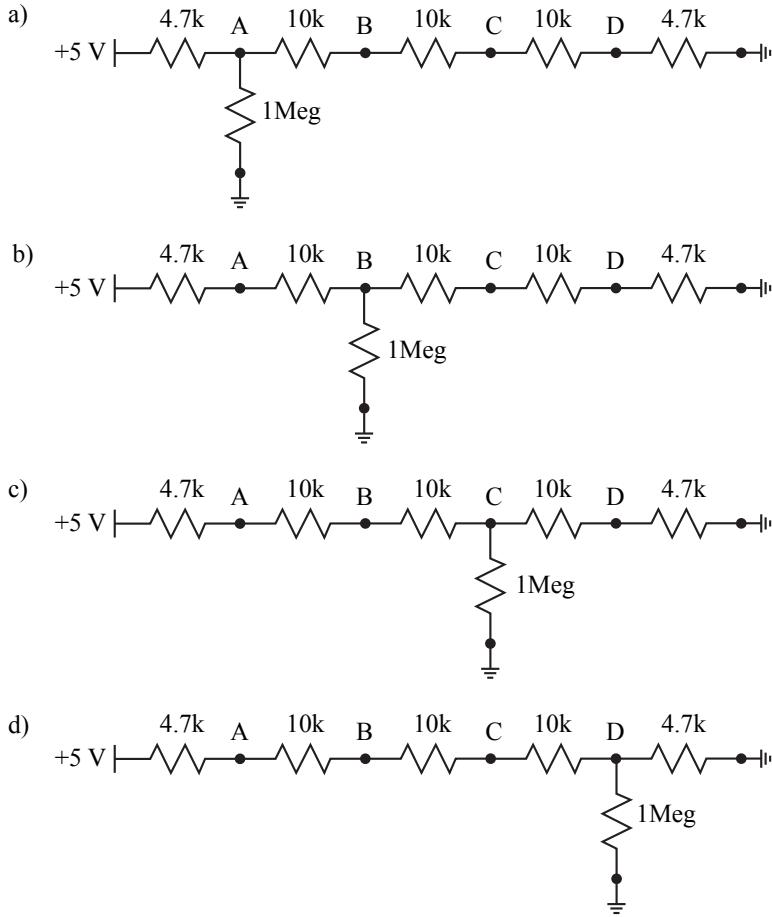

Figure 2.2: Resistor ladder with a $1\text{ M}\Omega$ resistor attached at nodes A through D ((a) through (d)).
2. When measuring the node voltages in the previous lab, the oscilloscope was used. The scope probes have a finite input resistance of $1\text{ M}\Omega$. Re-simulate the node voltages with a $1\text{ M}\Omega$ resistor at nodes A through D, Figure 2.2 (a) through (d). There should be a total of 4 simulations with node voltages A through D for each simulation. Table the values.